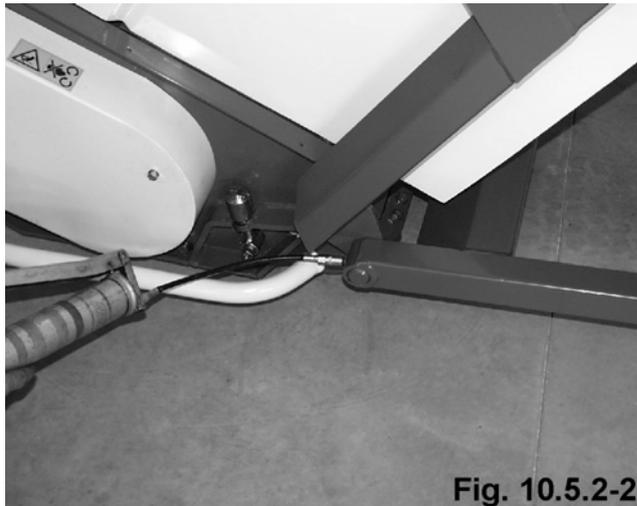

Fig. 10.5.2-2
- Rear guide wheel damping elements (fig. 10.5.2-1).
- Transport frame pivot point (fig. 10.5.2-2)
- Wheel fork on rear guide wheels (fig. 10.5.2-3)